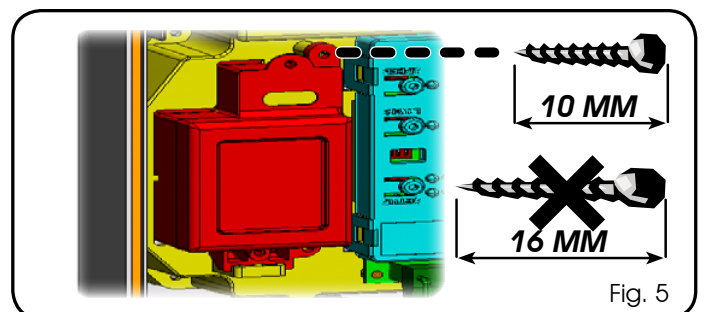

Fig. 5
2. Insert the battery in the housing you have just created, and secure it on the anchoring supports (Fig.5).